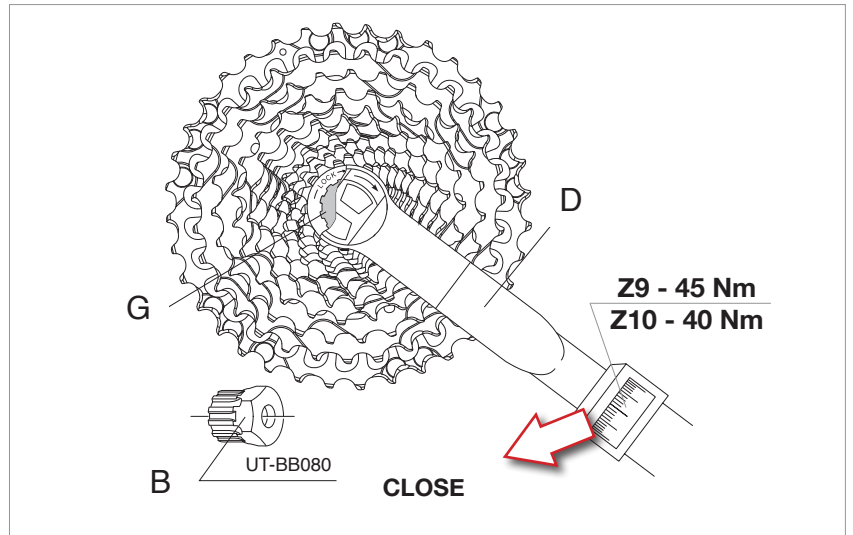

Fig.4
- Using a torque wrench (D - Fig. 4) together with Campagnolo® tool UT-BB080 (B - Fig. 4), tighten the locknut (G - Fig. 4) on the FW body to **45 Nm (398 in.lbs)** for sprocket cassettes starting from Z9 (unless otherwise indicated on the locknut) or **40 Nm (354 in.lbs)** for sprocket cassettes starting from Z10 (unless otherwise indicated on the locknut).